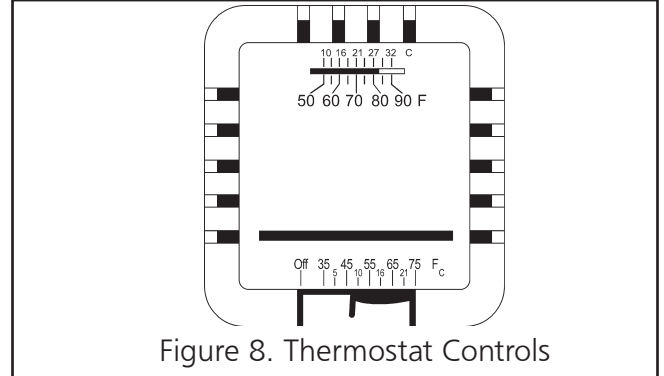

Figure 8. Thermostat Controls
- B. Set the thermostat to the OFF position. See Figure 8